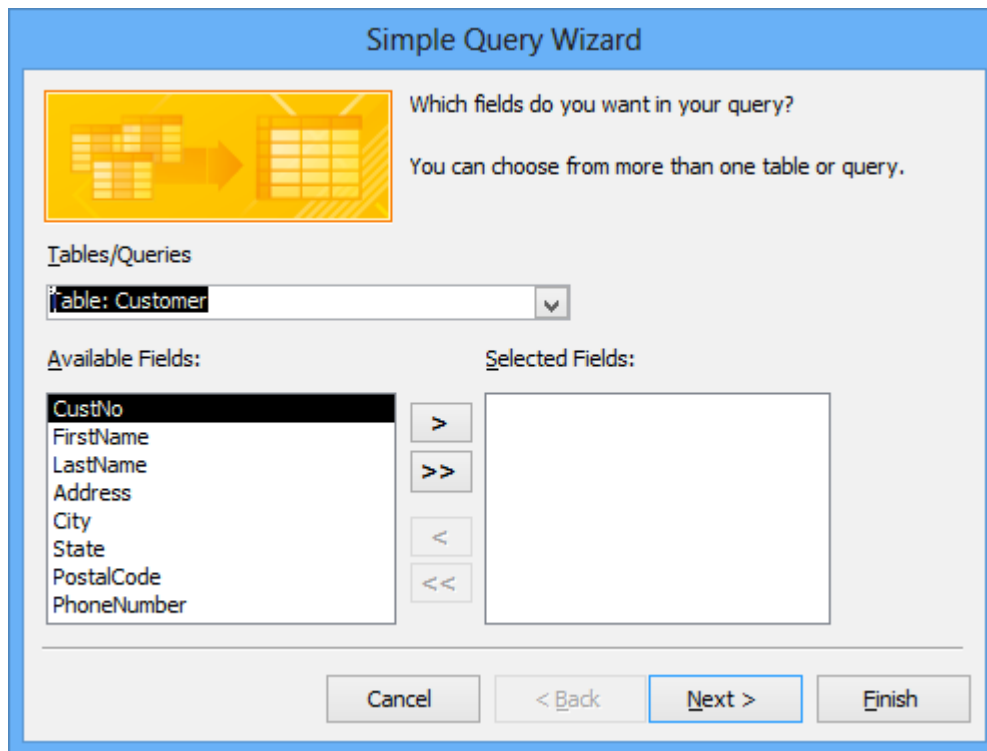

Figure 11: Initial Window of the Simple Query Wizard
2. Select a Table/Query: In the initial window (Figure 11), you first need to select from the Tables/Queries list. The Simple Query Wizard uses the selected table/query as a starting point in your new query. The default is always the previous query. Since you are basing this query on the *Customer* table as in the previous query, select *Customer*. Notice that when you make a selection, the list of available fields in the window below changes accordingly.